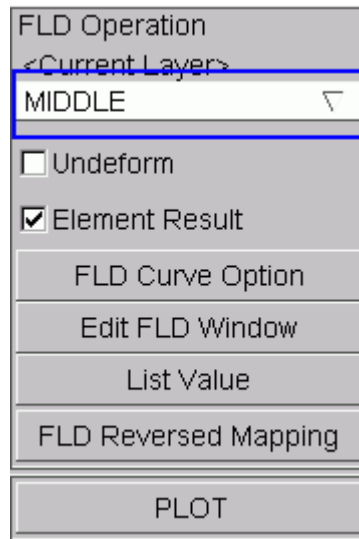

Figure 4.45: FLD dialog box
- 2) Select “Middle” in the pull-down menu of **Current Component**. See figure 4.45.